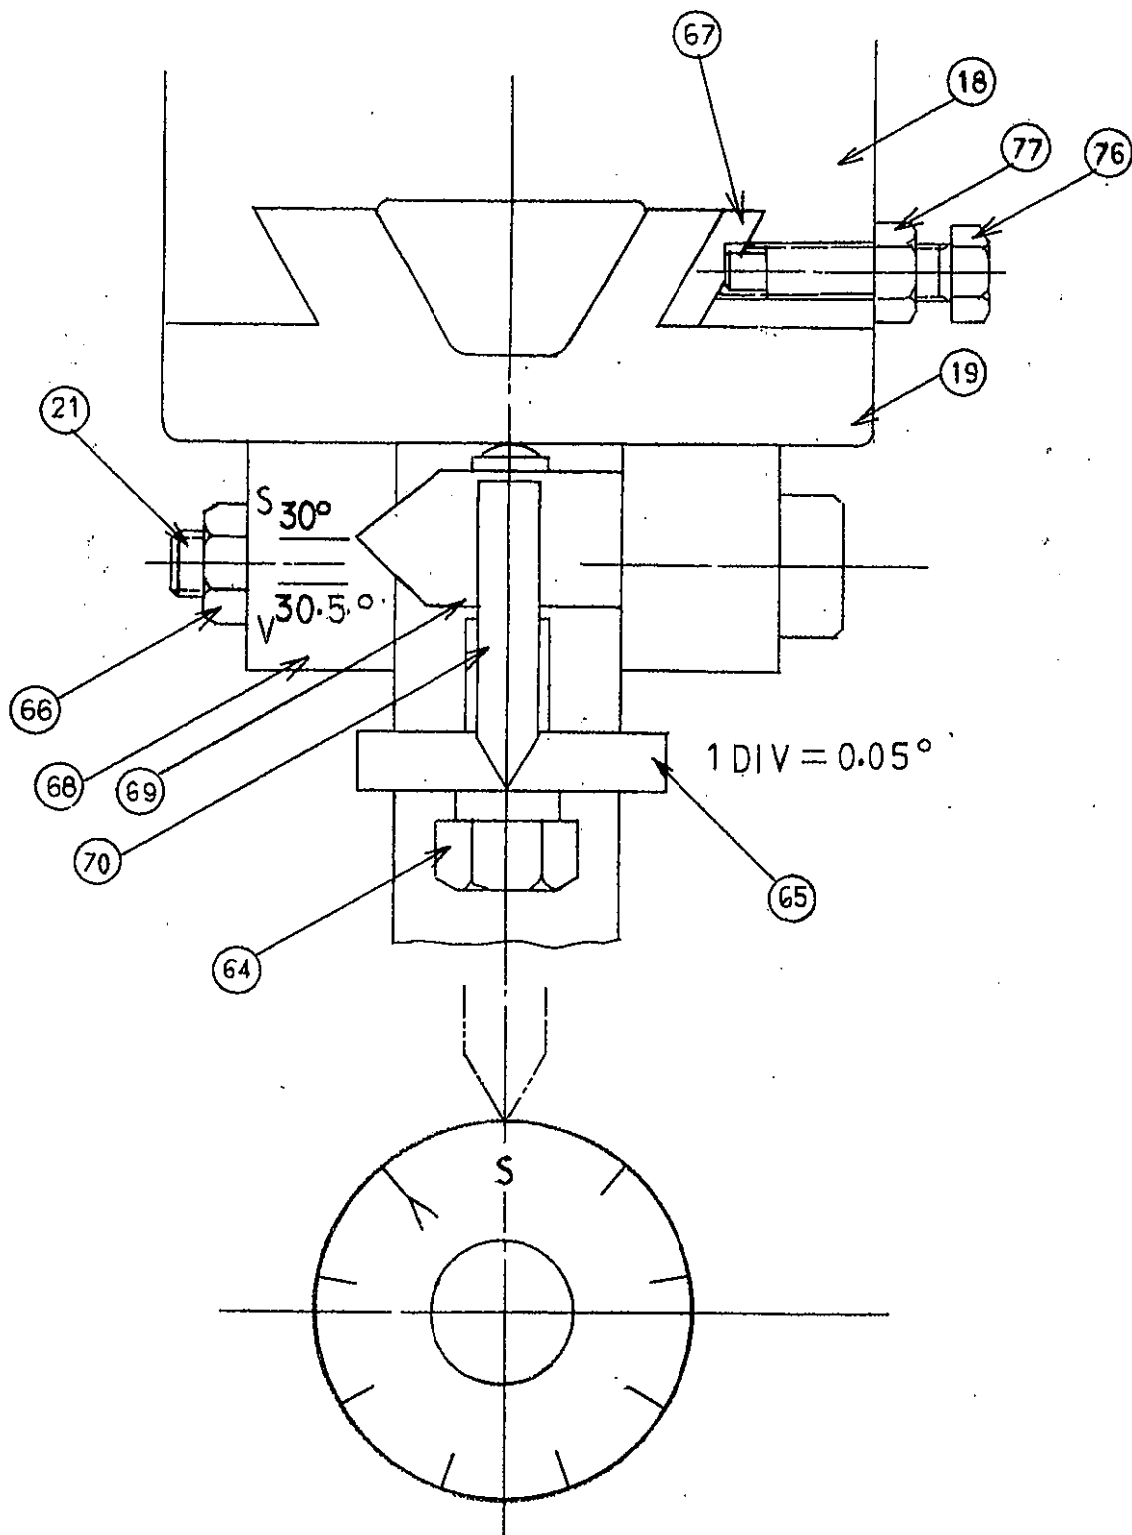

Fig. 27
- Adjust the jib (67) with the adjust bolts (76) provided at the side of the slide, when the wheel spindle slide is excessively light or heavy. (As shown in Fig. 27)